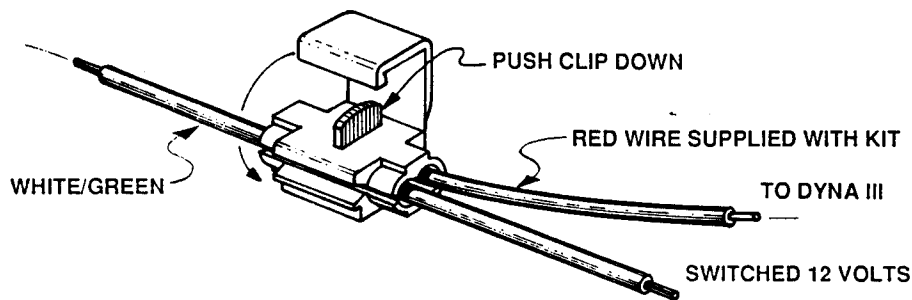

FIGURE 2
- 6) Locate the blinker relay just behind the fuse box in the left compartment. The white and green wire going to the relay carries 12 volts from the ignition switch. Using the splice connector provided, (FIGURE 2) attach the separate red wire included in the kit to the above white and green wire. Do not strip the wires when using the splice connector. Use pliers to push the clip down.